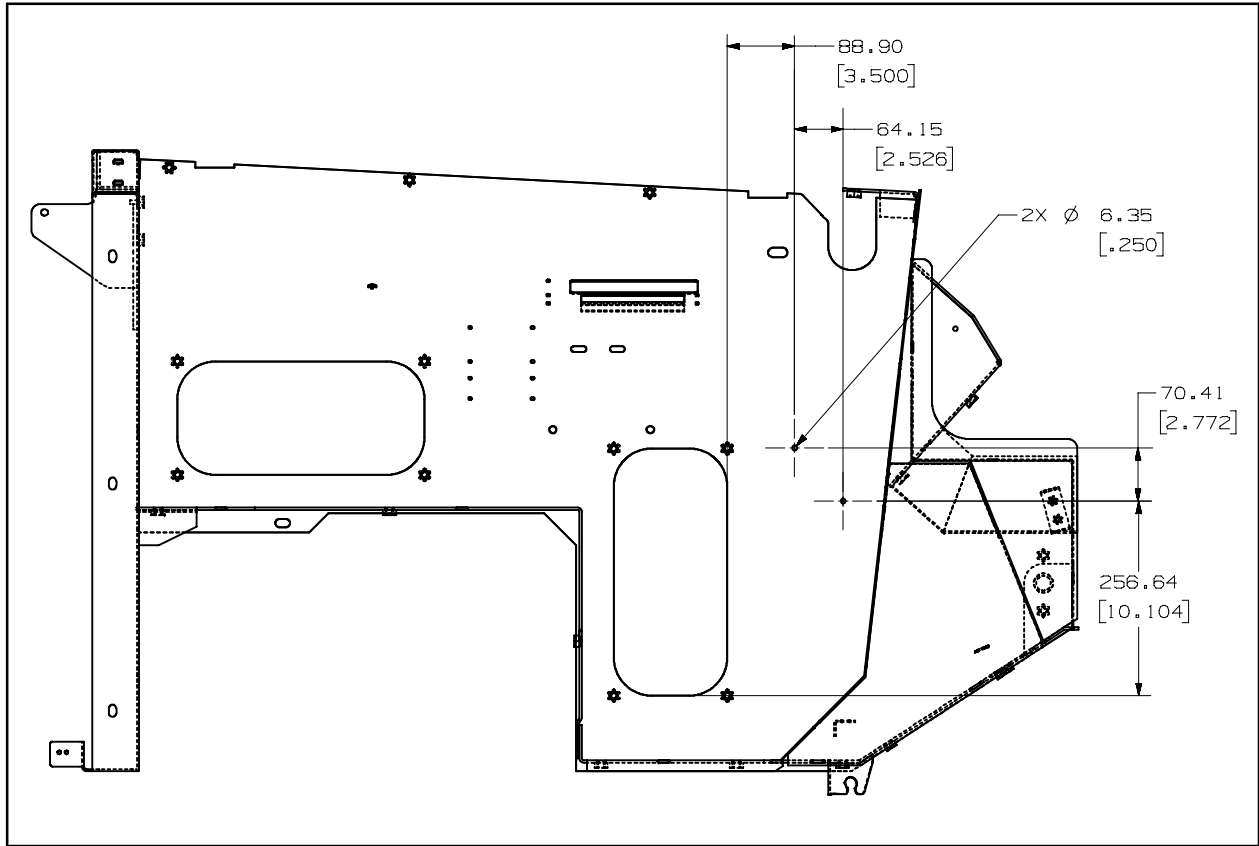

FIG. 3
2. Drill two 0.25" holes into the operator compartment. Refer to Fig. 3 for locations for the holes.
3. Use two pan screws (2) and two hex nuts (3) to install the bracket included with the fire extinguisher (1) onto the operator compartment.